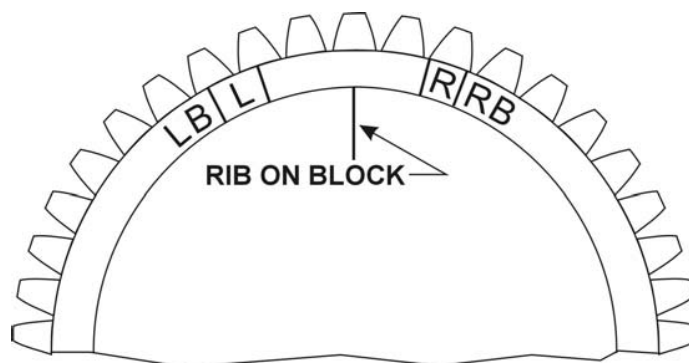

Figure 5-2. Timing Marks – 6 Cyl. –1200 Series
- (1) Remove a spark plug from No. 1 cylinder and place a thumb over the spark plug hole. Rotate the crankshaft in direction of normal rotation until the compression stroke is reached, this is indicated by a positive pressure inside the cylinder tending to push the thumb off the spark plug hole. Continue rotating the crankshaft until the advance timing mark on the front face of the starter ring gear is in alignment with the small hole located at the two o'clock position on the front face of the starter housing. (Ring gear may be marked at 20° and 25°. Consult specifications for correct timing mark for your installation.) At this point, the engine is ready for assembly of the magneto.
- (2) *Single Magneto* – Remove the inspection plugs from both magnetos and turn the drive shaft in direction of normal rotation until (-1200 series) the applicable timing mark on the distributor gear is approximately aligned with the mark on the distributor block. See Figure 5-2. Being sure the gear does not move from this position, install gaskets and magnetos to the engine. Note that an adapter is used with all magnetos. Secure with (clamps on -1200 series) washers and nuts; tighten only finger tight.
- (3) Using a battery powered timing light, attach the positive lead to a suitable terminal connected to the switch terminal of the magneto and the negative lead to any unpainted portion of the engine. Rotate the magneto in its mounting flange to a point where the light comes on, then slowly turn it in the opposite direction until the light goes out. Bring the magneto back slowly until the light just comes on. Repeat this with the second magneto.
- (4) Back off the crankshaft a few degrees, the timing lights should go out. Bring the crankshaft slowly back in direction of normal rotation until the timing mark and the hole in the starter housing are in alignment. At this point, both lights should go on simultaneously. Tighten nuts to specified torque.
- (5) *Dual Magnetos* – Place the engine in the No. 1 advance firing position as directed in paragraph 1, b, (1).
- (6) Install the magneto-to-engine gasket on the magneto flange.